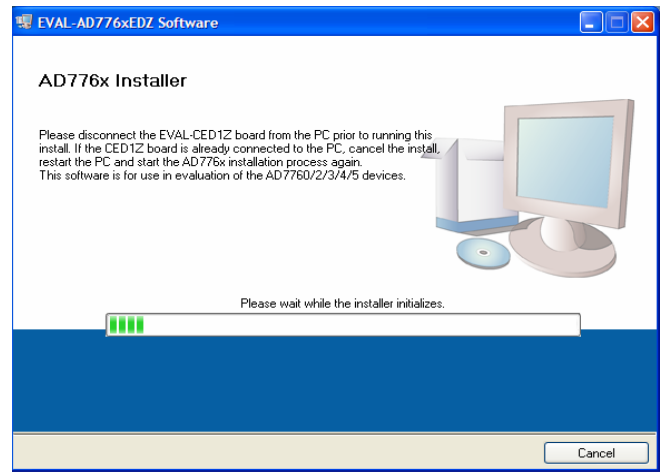

Figure 2. EVAL- AD776xEDZ Setup Dialog Box, Initial Software Install Screen
2. The dialog box shown in Figure 2 appears.